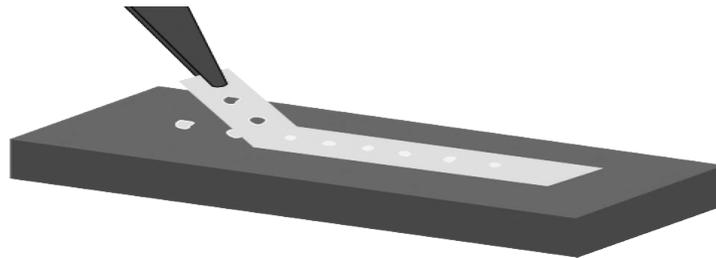

Figure 15: Peel test to ensure proper gage bonding
3. Using either pliers or gloves to avoid the sharp edges of the shim, completely separate the shim and the medium. Figure 15 illustrates the peel testing using pliers. If the shim has holes where the spot-bonds were, then the bond energy is sufficient. If there are no visible holes on the shim where the spot-bonds were, or if there is no residual shim material on the medium, then the bond energy is not great enough.